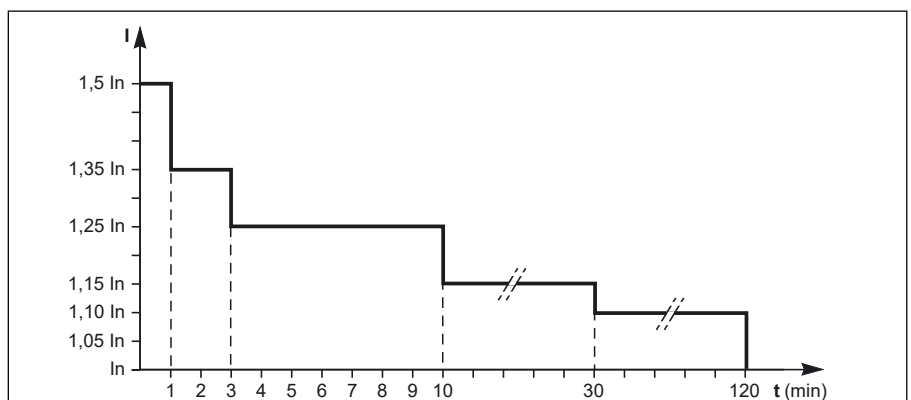

Fig. 14
► in the event of a small but extended overload (i.e. a continuous level of power exceeding the full rated load), the inverter will continue to supply power for a period depending on the magnitude of the overload (10 minutes for a 125% overload, 1 minute for a 150% overload). See the overload curve in figure 14;
- ▷ light (4) goes off,
- ▷ light (3) shines green,
- if the overload is less than  $1.65 I_n$ , the remaining inverters support the overload (see curve in figure 14), and the load is transferred to the bypass AC source;
- ▷ the light (4) goes off,
- ▷ the light (3) goes on and turns green,